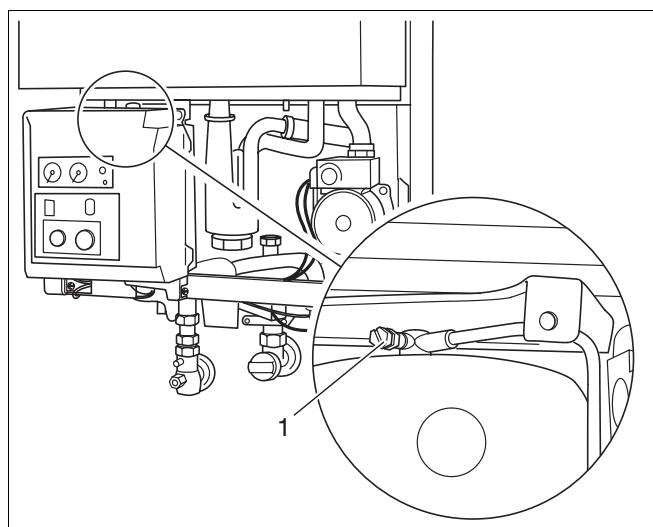

Fig. 29 Purge the hot-water heat exchanger of air (applies to type 600 - 24C only)
- Bleed the hot-water heat exchanger via the vent screw on the heating-circuit side (fig. 29, item 1).